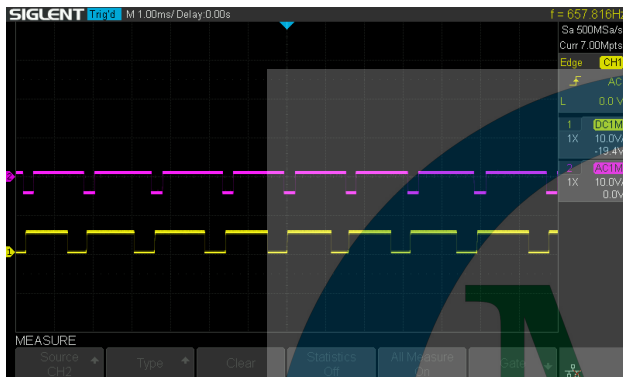

Figure 8 – Imbalanced pulse trains
5. Two pulse trains with unequal pulse widths (Figure 8):